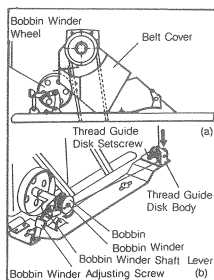

Fig. 15
- Fit the Bobbin to the Bobbin Winder Shaft as shown in Fig. 15 (b), wind by hand the thread 5-6 turns in the winding direction, and then depress the Bobbin Winder Lever.